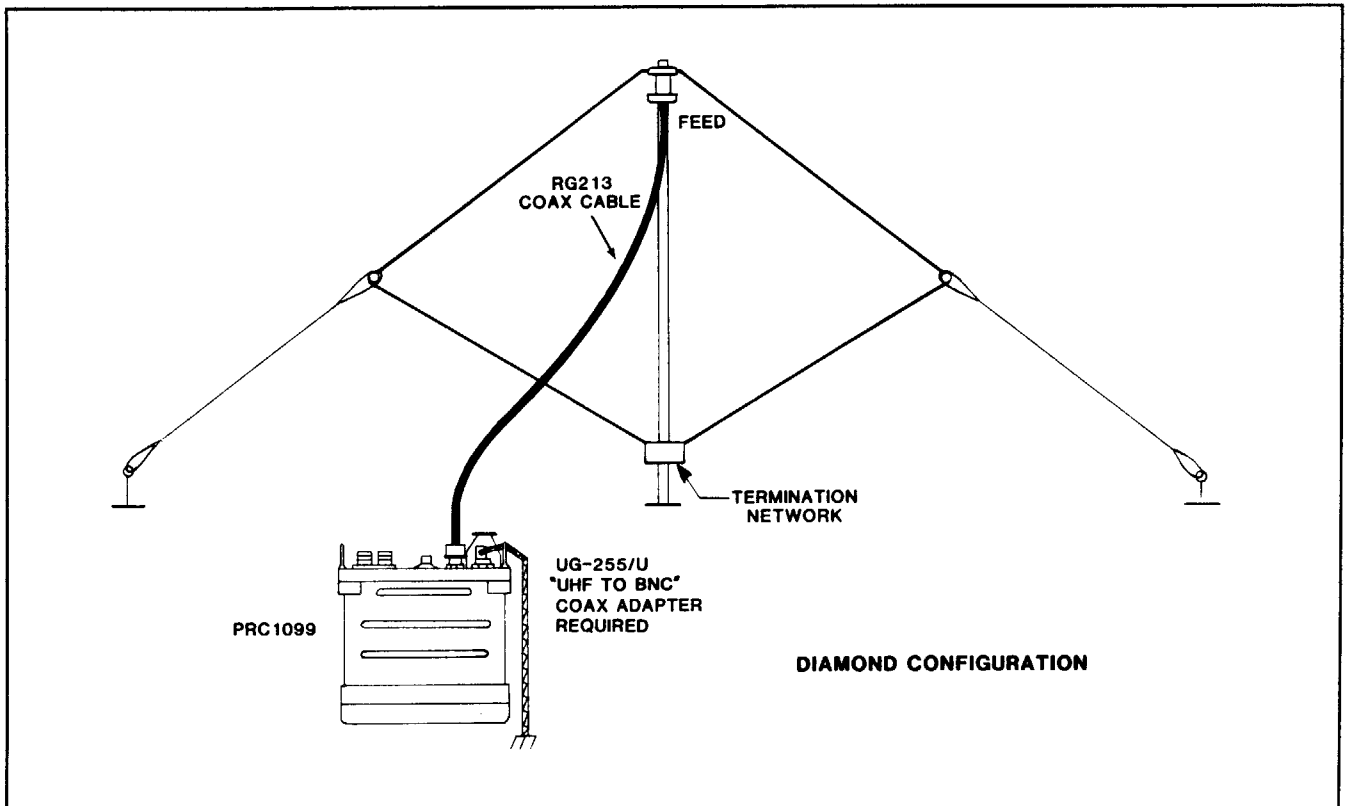

FIGURE 7-4.
(2) Broadband Antennas. The ABB100A and ABB100B antennas offer good performance, without adjustment over the 2-30 MHz frequency range. See Figure 7-4.
(3) Directional Antennas. Directional Antennas are used for long range communications. Rotatable arrays provide coverage in all directions while fixed antennas are used for operation in specific directions. Some directional antennas are restricted to single frequency operation; while other arrays, such as the log periodic, can be used over a wide frequency range.